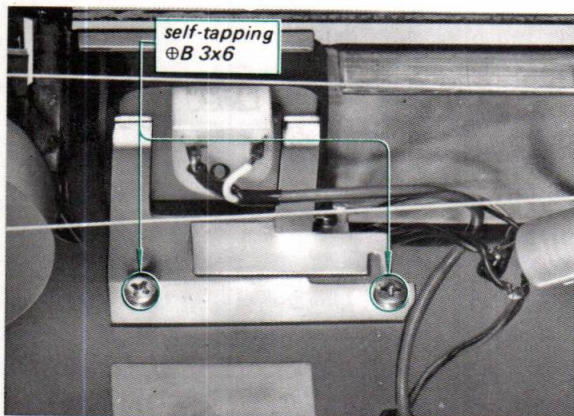

Fig. 2-13. Meter holder removal
1. Remove the two self-tapping screws (⊕ B 3x6) securing the meter holder to the chassis as shown in Fig. 2-13.
3. Remove the two self-tapping screws (⊕ B 3x6) securing the meter holder to the chassis as shown in Fig. 2-13.